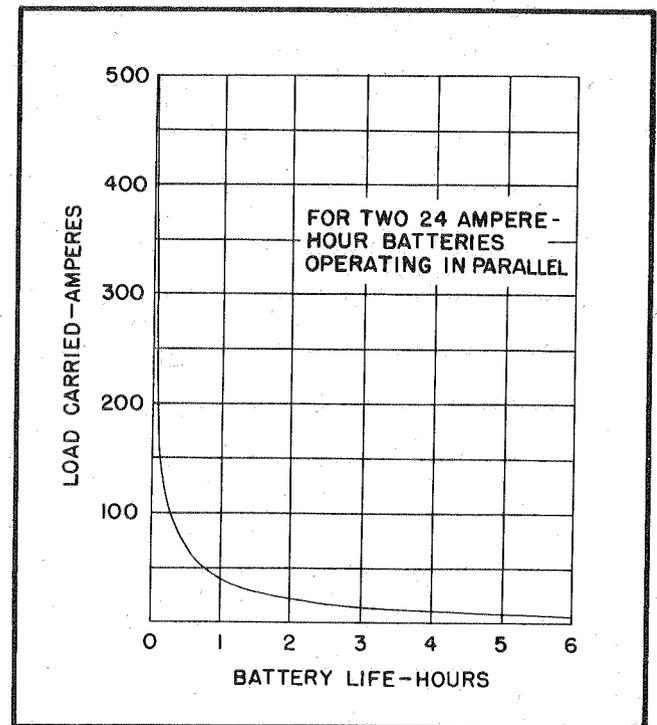

Figure 7-3. Battery Life Chart
**LOSS OF MAIN D-C GENERATOR.** If the main d-c generator or constant speed drive fails, the two standby generators must be switched on to supply the main and essential d-c busses. Connected in parallel the two 50-ampere standby generators are rated at 90 amperes, 30 percent of the maximum electrical load carried by the main d-c generator. The two 24-volt batteries have a combined life of 48 ampere hours (see figure 7-3).